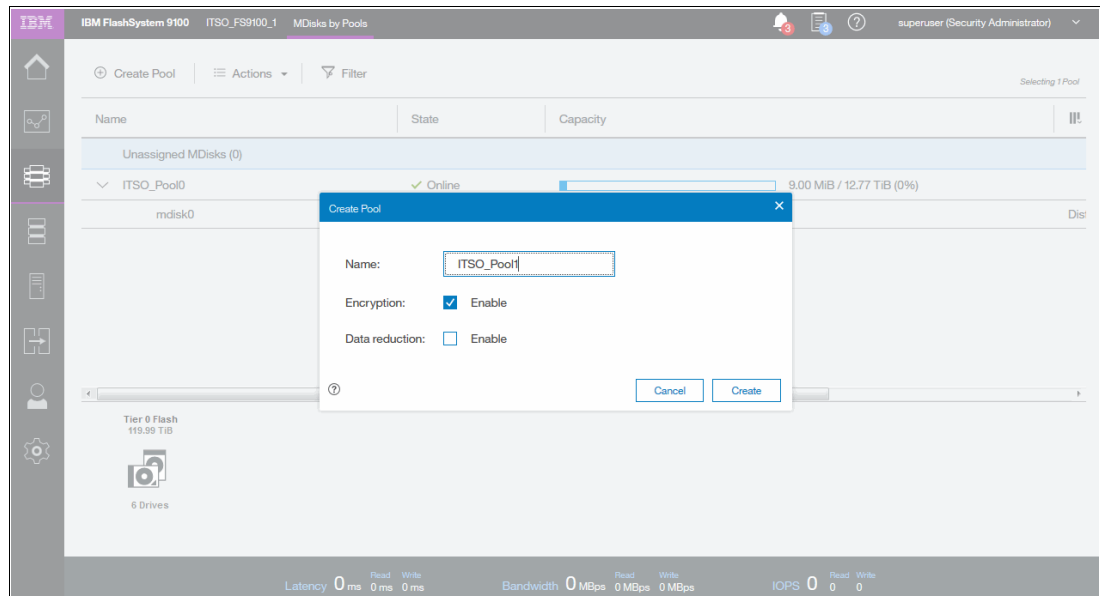

Figure 5-23 Create Pool dialog box
4. Open the Dialog box shown in Figure 5-23. Enter the Name of a new storage pool, ITS0_Pool1, and then click **Create**.